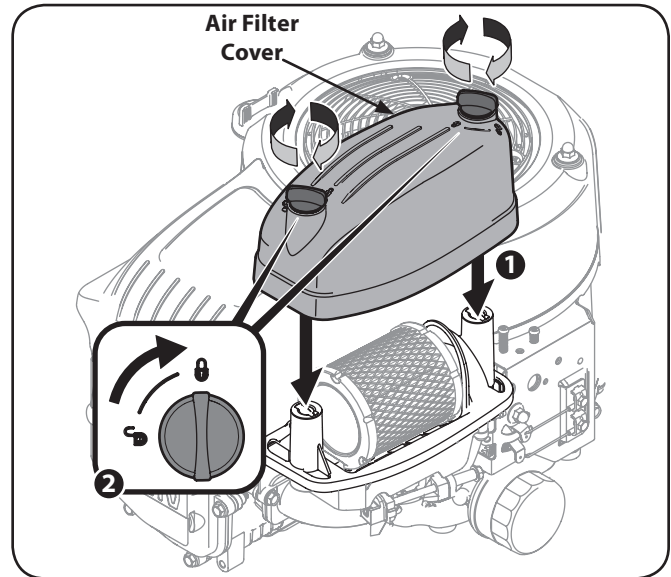

Figure 6-8
- Attach the air filter cover. See Figure 6-8. Turn thumb screws clockwise a 1/4 turn until snug. Check for any misalignment.